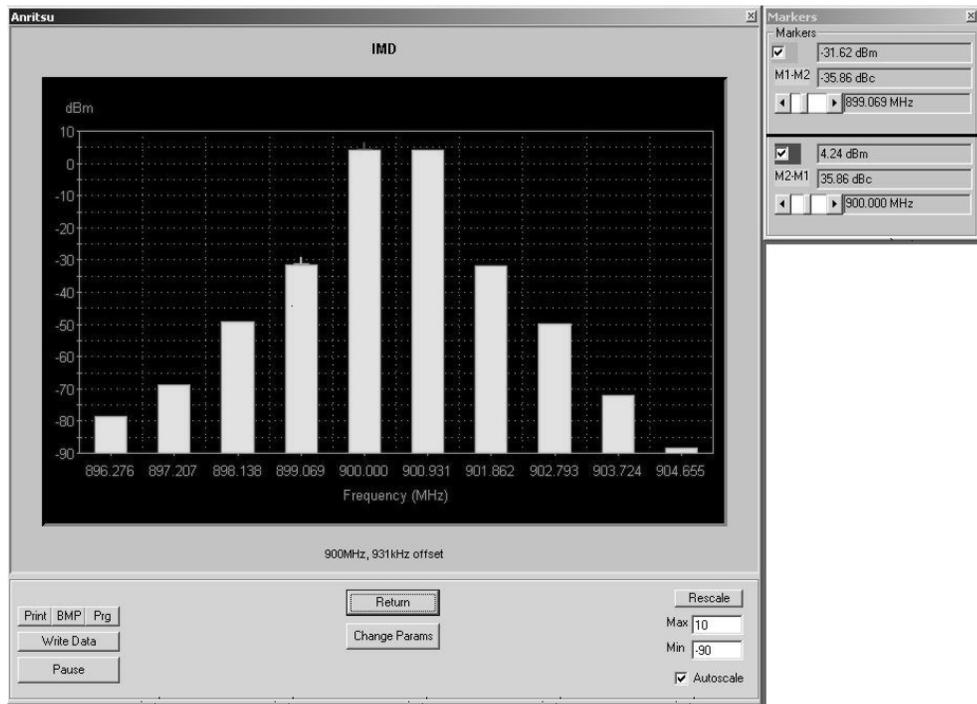

Figure 5-10. CW Intermodulation Distortion Test Screen
- **Select Start Test:** Observe that the test screen (Figure 5-10) appears.